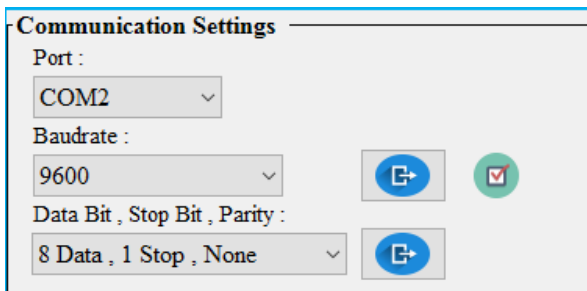
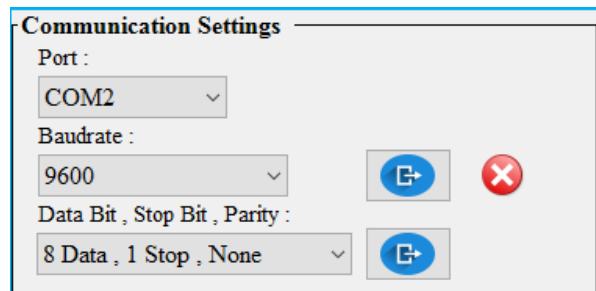

Figure 38
Figure 39
- If the setting is saved successfully  right check will appear next to  button. In case of error,  wrong check will appear as shown in Figure 38 & Figure 39 respectively.